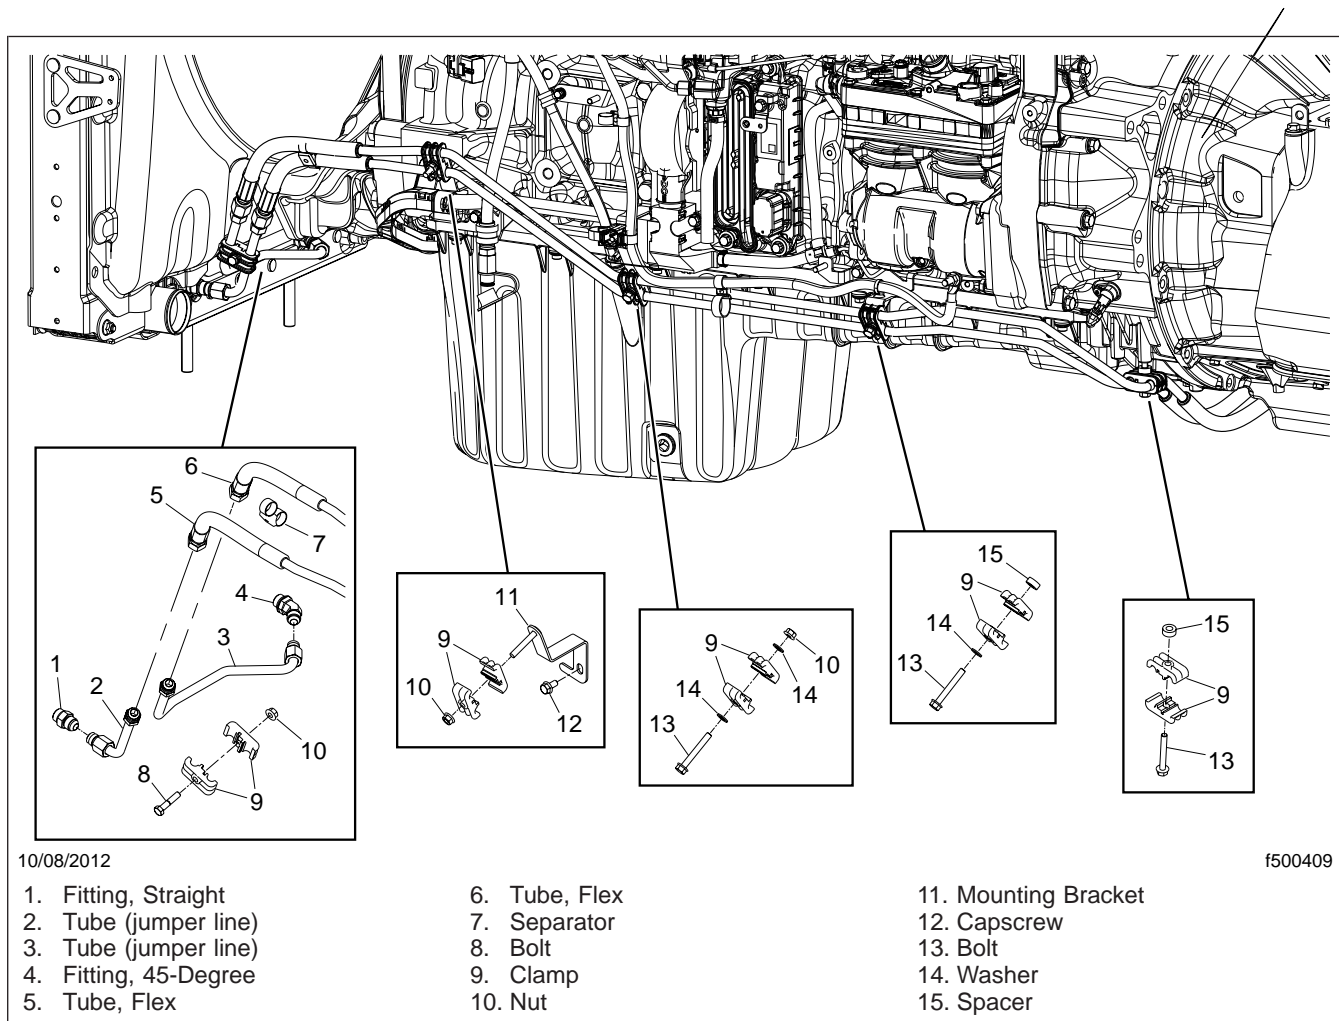

Fig. 7, Transmission Cooler Line Installation (typical)
23. Install the new transmission cooler lines from the transmission to the jumper lines on the radiator. Do not install the jumper lines at this time. See **Fig. 7**. For vehicle specific plumbing diagrams refer to EZWiring.